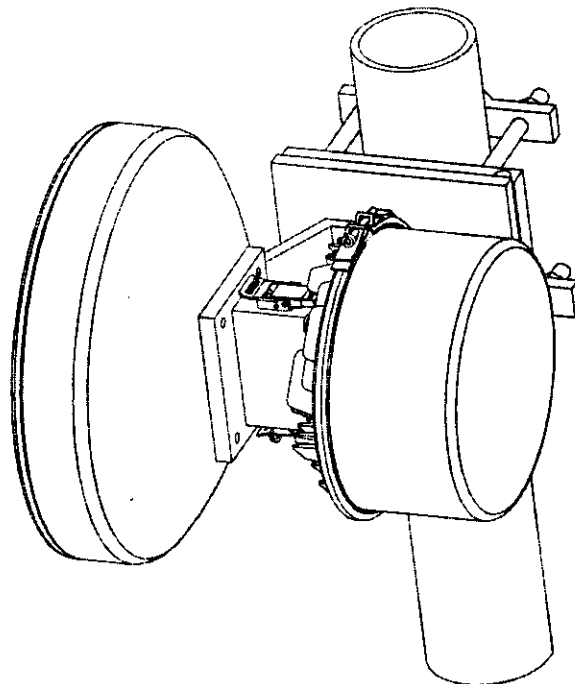
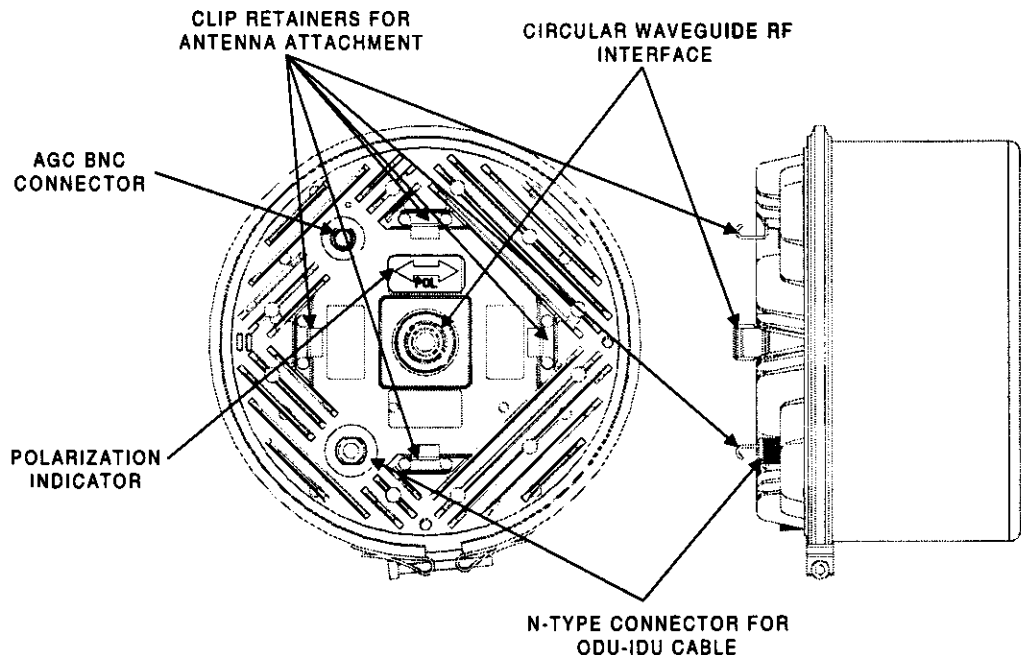

Figure 3-1. Co-located ODU with Antenna
Figure 3-2. ODU in Horizontal Polarization
The ODU mounts directly to the antenna with latches and spring loaded retention clips, as shown in Figure 3-1. The polarization of the transmitted signal is indicated by the polarization indicator on the faceplate of the ODU, as shown in Figure 3-2. The ODU has four mounting clips so that it may be fixed to the antenna according to the desired polarization.
- Step 4. Attach ODU to remote mount using captive spring clips on plate, ensuring polarization is vertical, i.e. with ODU polarization indicator positioned to point up and down. See Figure 3-2 for reference.